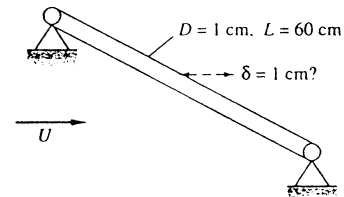

Fig. P5.57
**5.57** The simply supported 1040 carbon-steel rod of Fig. P5.57 is subjected to a crossflow stream of air at 20°C and 1 atm. For what stream velocity  $U$  will the rod center deflection be approximately 1 cm?